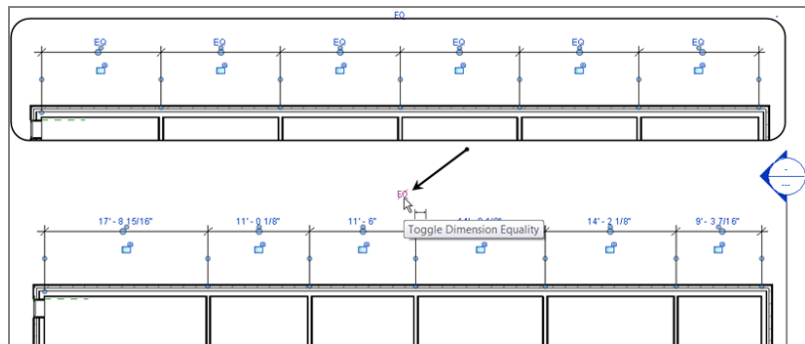

FIGURE 5.31: Before and after the EQ icon is selected
1. Find the EQ icon in the middle of the dimension string, and pick it. The slash through it is now gone, and the walls have moved, as shown in Figure 5.31.